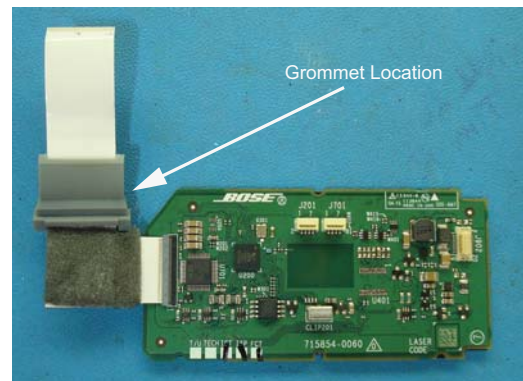

Figure 25. FFC Grommet
4.1 Insert the grommet over the FFC as shown. Figure 25. FFC Grommet
Feed the FFC with grommet through the slot in the rear baffle. Ensure both sides of the grommet nub is fully seated in the slot. Figure 25 and 27.